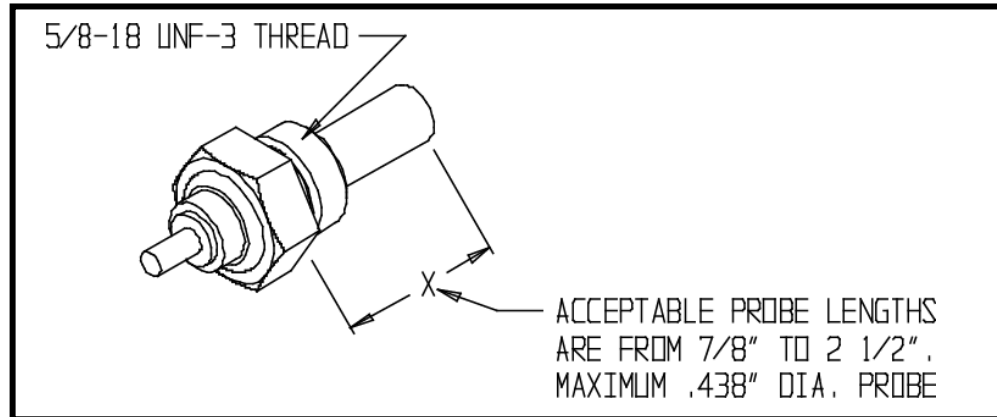

Figure 3
10. After removing filter from the **OFA** install the **OFA** using the four (4) new Lycoming STD-1856 1/4" bolts with an AN960-416 washer on each bolt. Using a 7/16" six point thin wall (Snap-On or similar) socket, torque the four (4) bolts to 75 in. lbs.
12. The hole provided for the oil temperature bulb is tapped 5/8-18UNF to accommodate P/N MS28034-1 temperature bulb. If a different type is used (such as a large “bourdon tube” type) an adapter, B&C Part Number 700-304-1, may be required to provide the proper seat for the probe. Check Figure 3 for maximum temperature probe size.